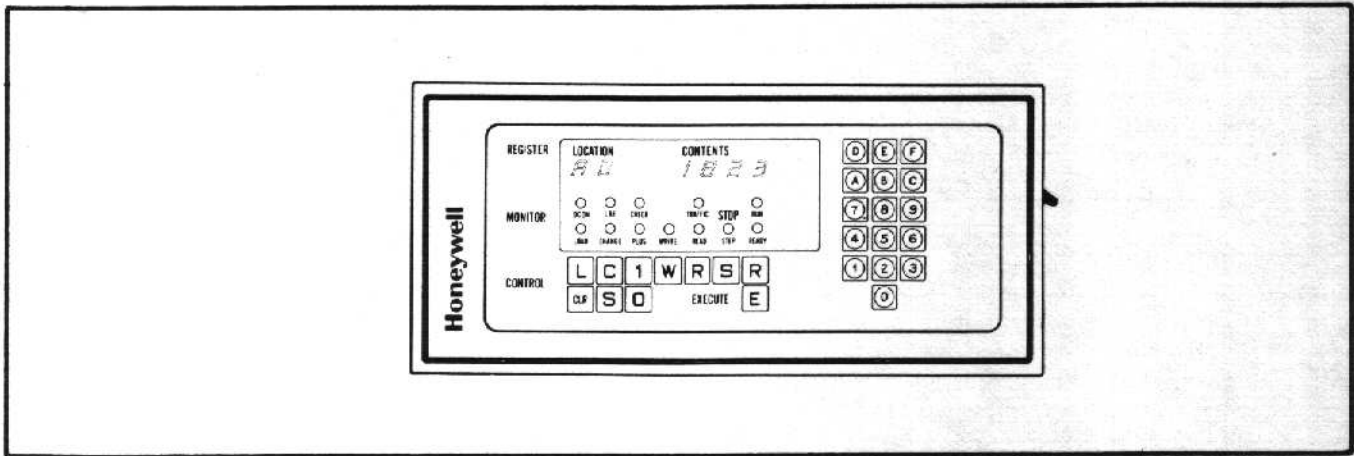

Figure 1-16. Portable Plug-in Panel
- o Portable Plug-in Panel3 – a self-contained, full control panel (Figure 1-16) that can plug into any Model 33, 43, or 47 basic panel. It provides security, economy, and flexibility of operation in multisystem environments.